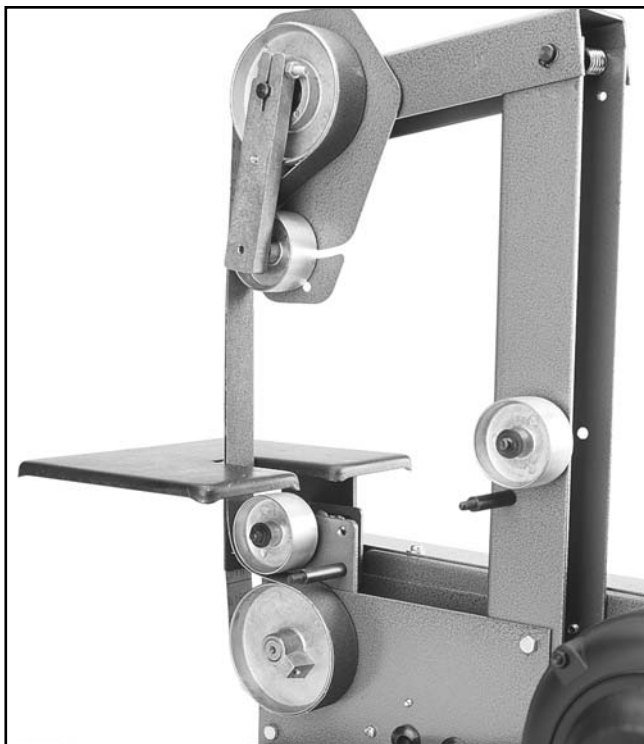

Figure 21. Belt arrangement for inside sanding.
3. Press down on the top arm and feed the remainder of the belt through the rollers as shown in **Figure 21**.